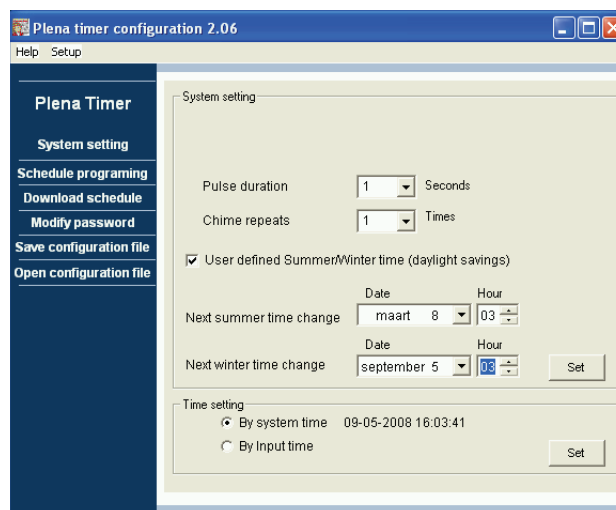

figure 8.13: User defined Summer/Winter time window
- Click the “By input time” radio button, and then the Set button to manually set the Plena Weekly Timer to the required time. The following window will appear (see figure 8.13).